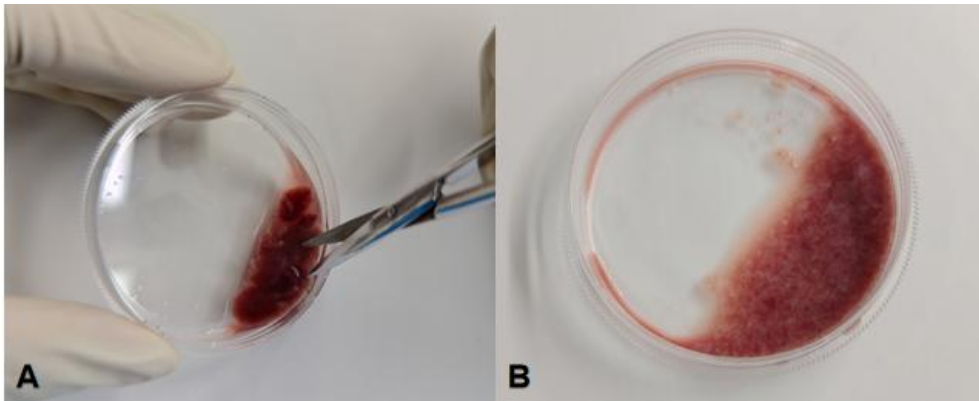

Figure 1. Treatment of liver tissue in vitro
b. Quickly cut the tissue into 1 mm³ pieces using ophthalmic scissors 3, until the tissue is sugar like (as shown in Figure 1) and there are no large pieces of tissue. Use a Pasteur pipette or a pipette with a wide mouthed tip to transfer the tissue fluid and transfer it to a 50 mL centrifuge tube. Add 5 mL **Specialized Washing Solution For Mouse Liver Sinusoidal Endothelial Cells** to clean the liver tissue culture dish and transfer it to the same centrifuge tube. Centrifuge at 300 g for 1 min, discard the supernatant, and retain the tissue precipitate.
(2) Tissue Digestion